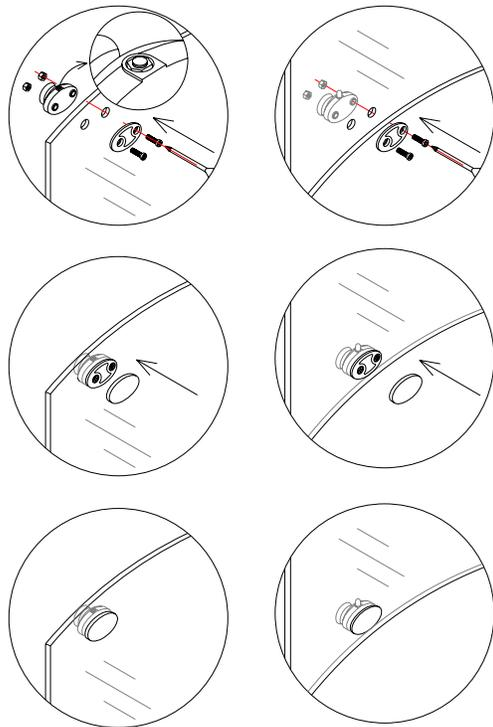

Fig 11
11. Your unit can be shipped to you with the wheel assemblies installed on the doors. If not, please refer to diagram (fig 11) how to install it. Attach the top and bottom wheels to the glass doors. The wheel that goes on the top has an adjustable screw and nut to adjust the door level. Note that the lock nut of upper wheel should face up. The bottom wheel has a press button to fix the wheel on the bottom guide rail; that button should face up; (fig 11)